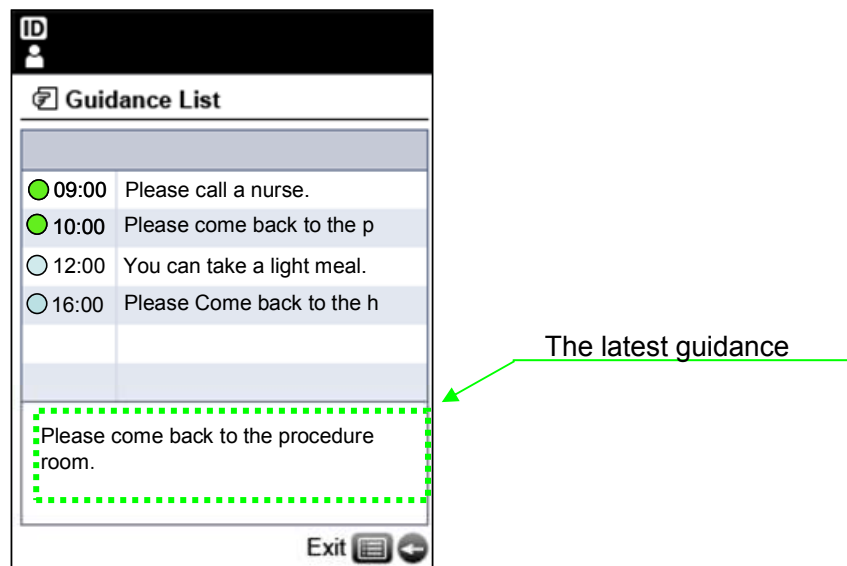

Figure 4.39
3. Guidance List is displayed. (Refer to Figure 4.39)
- The latest guidance is displayed in the lower part of the screen. (Refer to Figure 4.39)